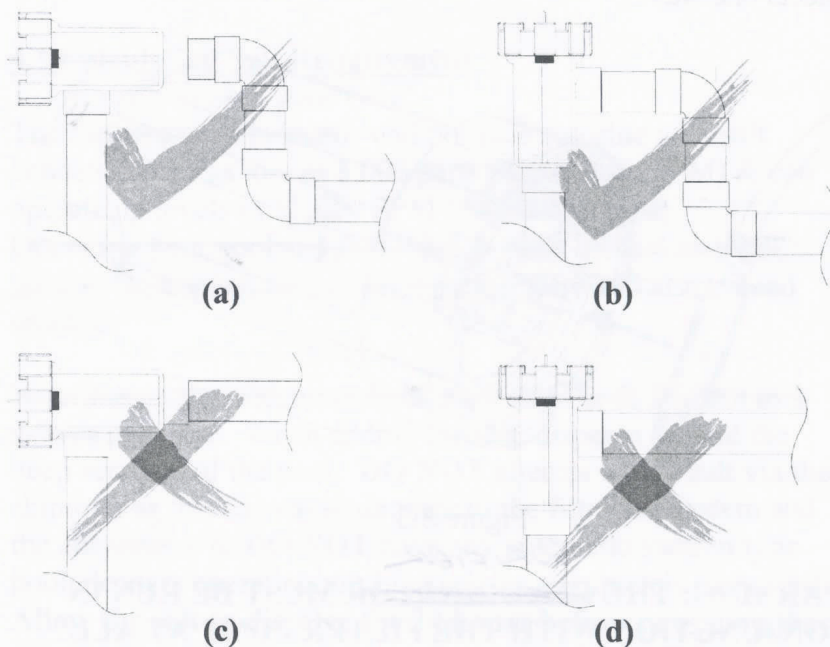

Figure 3.2
Please refer to Figure 3.1 and Figure 3.2, it is recommended to install the electrolytic cell within 1.5 metres of a vertical wall or fence to allow the power pack to be easily mounted. The Cell must be installed such that a localised air pocket will form in the event that no water is flowing (see Figure 3.2). Any heaters or other equipment **MUST** be installed before the cell. Also note that the flow sensor (6) must always be positioned above the lowest part of the cell (3) to function effectively..